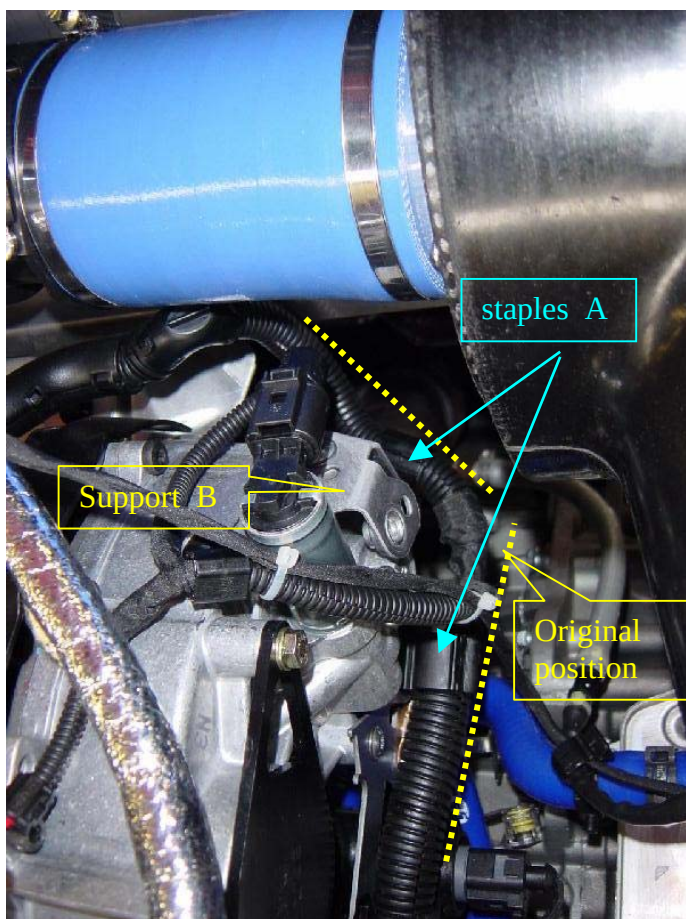

Fig 1
2. Disconnect the coils wiring loom of the 2 staples that support of previous coils wiring loom, marked with A in figure 1.
3. Disconnect the ground wire (brown) placed under the metallic support and remove the metallic support, shown in fig 2 (marked with B in fig 1)